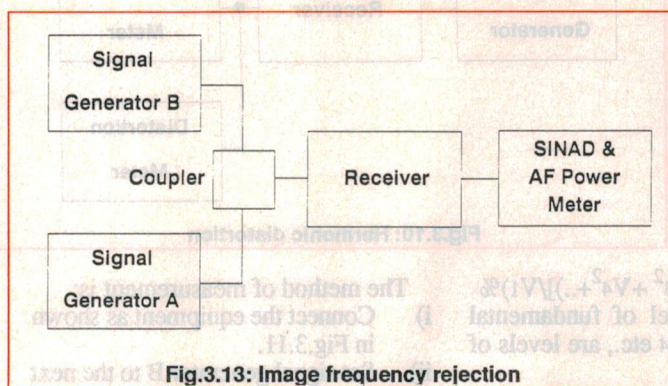

Fig.3.13: Image frequency rejection
- Connect the equipment as shown in Fig.3.13.